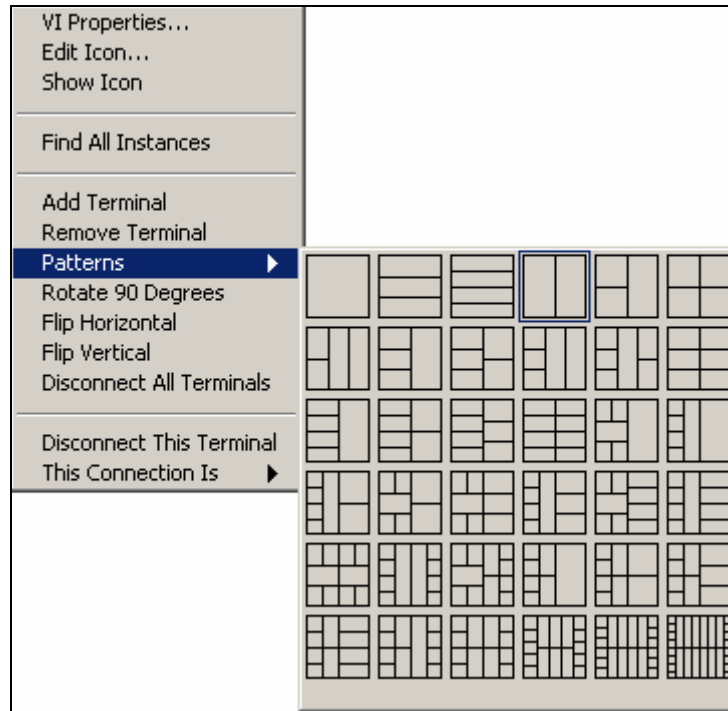

Figure 2.9: SubVI Terminal Patterns
- iv. Lastly, depending on the application, you may not want all the inputs or outputs to be available when used as a subVI. The number of inputs and outputs can be altered by changing the pattern of the **Connector Pane**. To do this, **Right-Click** on **Connector Pane** → **Patterns** → choose the pattern desired. You can also **Right-Click** on a specific terminal and choose **Add Terminal** or **Remove Terminal**. The menu will be similar to what is shown in Figure 2.9: